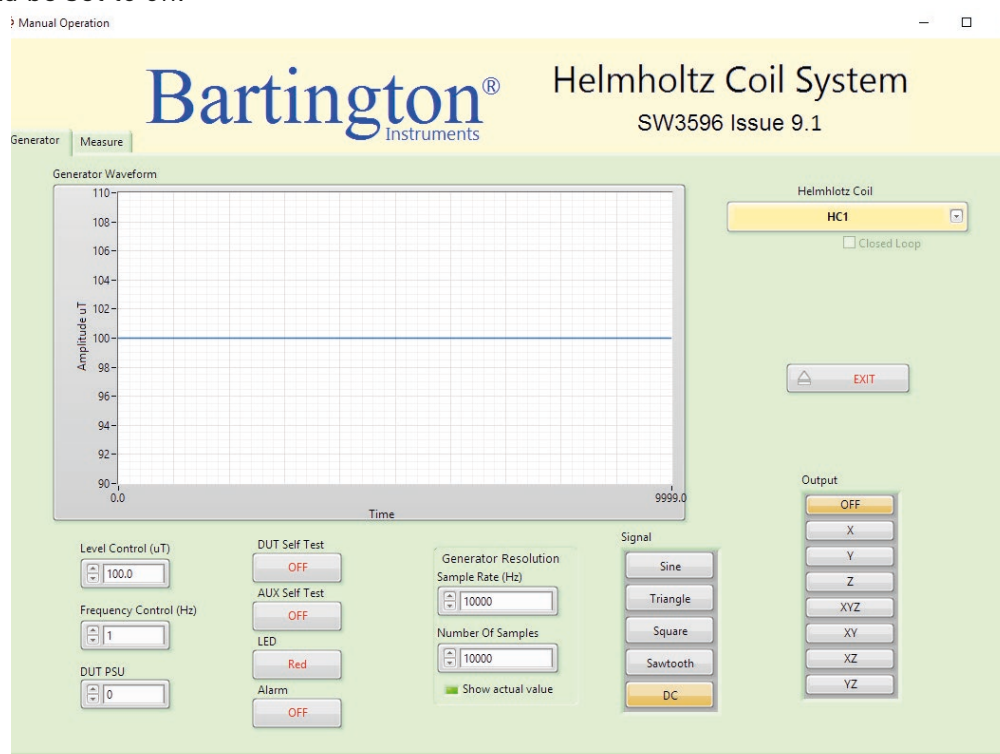

Figure 4. Offset adjustment Generator Tab template
2. To correct for Offset, switch to "Generator" tab, set HC Type to HC1 (regardless of the Helmholtz Coil type). Rest of the parameters should remain as shown in Figure 4. The Output should be set to off.